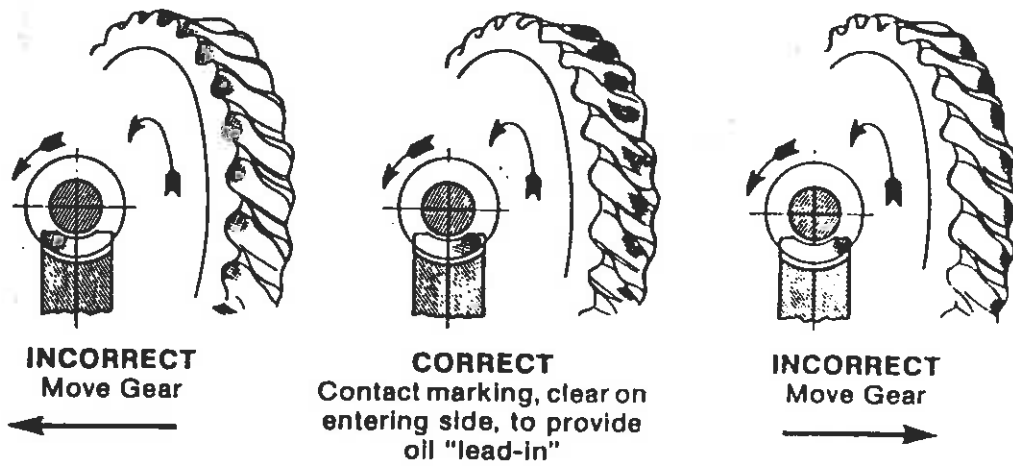

Figure 6 Gear Contact Pattern
- E. Use a rag to apply hand pressure to the output shaft and rotate the high speed shaft until output key is down. Return output shaft to original position by reversing rotation. Remove output shaft and seal cage to inspect contact. Compare with Figure 6. If contact is not correct move assembly in the direction shown in Figure 6 by adding shims to the side to which the arrow is correct.